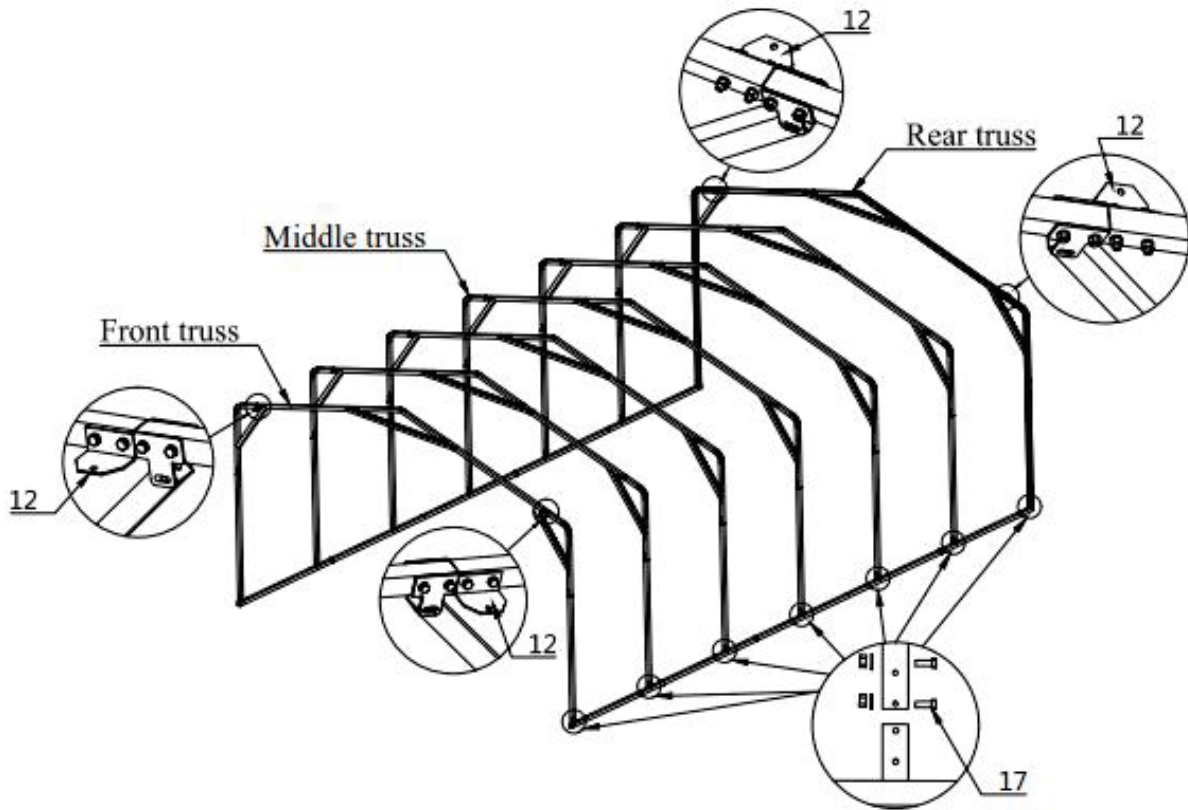

Figure 6
- The front and rear trusses are installed with one side of (#12) Steel cable mounting plate facing outwards (refer to figure 6).